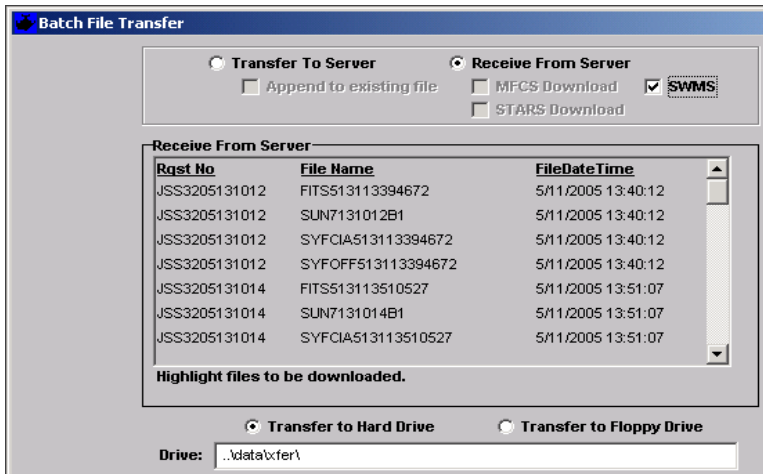

Figure 3.4
- 3.1.3 With *Receive From Server* and *SWMS* selected on the *Batch File Transfer* window (Figure 3.4), the Receive From Server list displays. Select available files for downloading. Enter output Drive path if different from the drive path displayed. Click *Apply*.